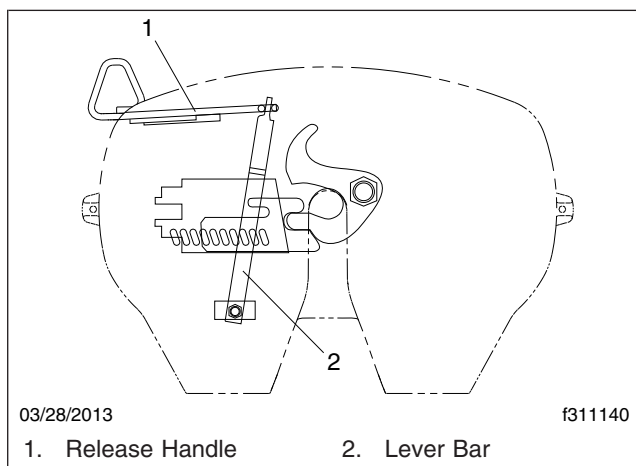

Fig. 3, Lever Bar and Release Handle Alignment
5. The lever bar and release handle must be in proper alignment. See Fig. 3. Compare the lever bar and release handle alignment to a new, or a properly operating lever bar and release handle. Replace any bent or misaligned lever bar or release handle.